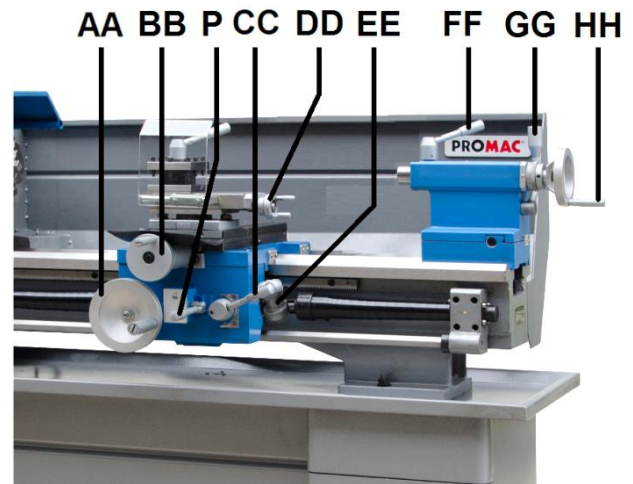

Figure 10-6: Machine controls
Apron travel (AA, Fig 10-6), cross travel (BB) and top slide travel (DD) can be operated for longitudinal and cross feeding.